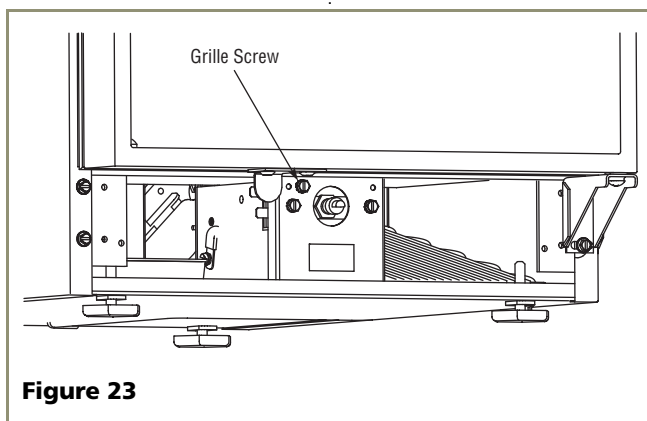

Figure 23
1. Locate and remove the grille screw from the cabinet, using a standard blade screwdriver (or a 1/4" nutdriver). See **Figure 23**.